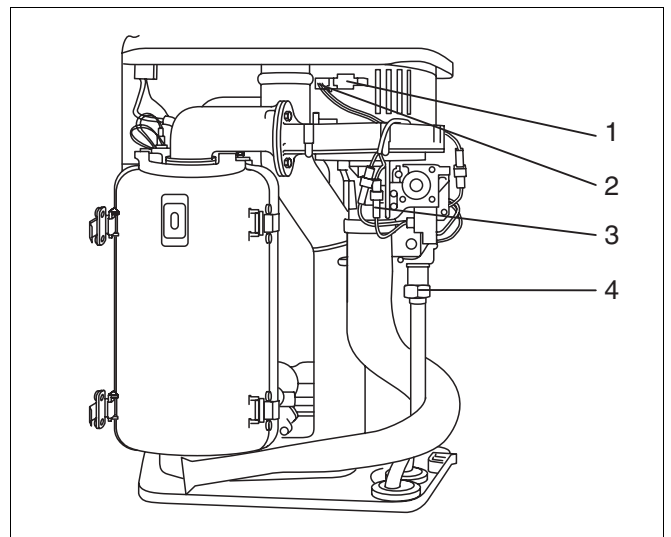

Fig. 55 Replacing the fan on the 600 Series:
- Disconnect the fan, using the plug and socket from the power supply (fig. 55, item 1), loosen the UBA control line at the fan (fig. 55, item 2) and the gas burner fitting (fig. 55, item 3).
- Loosen the union nut (fig. 55, item 4) on the gas burner fitting.